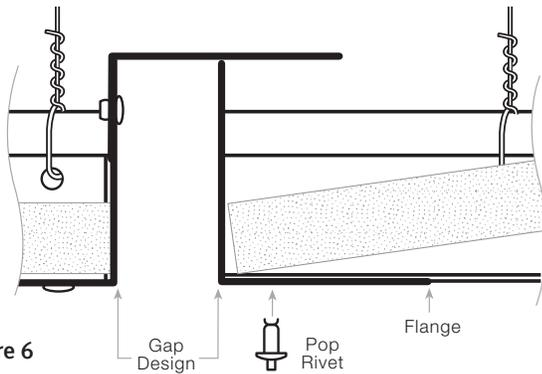

Figure 6
- Suspended ceilings in excess of 2,500 square feet require a seismic separation joint or full height wall partition dividing areas not to exceed 2,500 sq. ft, unless analysis by the designer of record is provided that the bracing is sufficient to accommodate the anticipated lateral displacement. See figure 6. (*ASCE 7-05 Section 13.5.6.2.2 item d*)